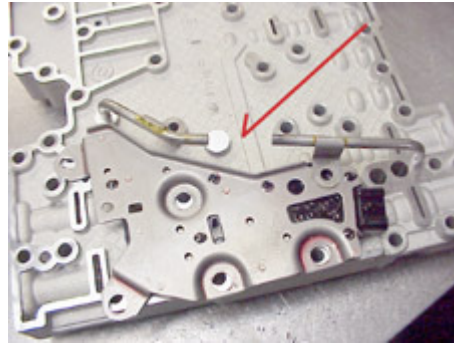

Figure 8: Tube after modification
11) After cutting the tube remove **exactly** 1-3/8 inch from the other section of the tube (Figure 8).